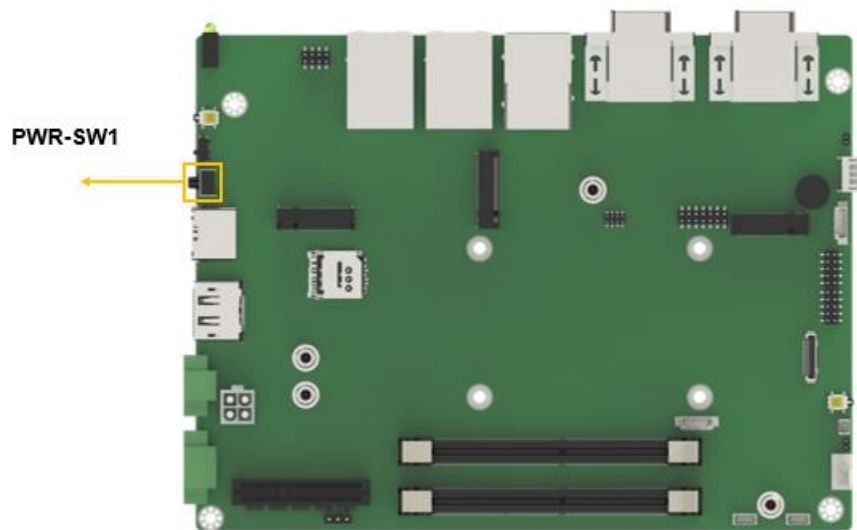

Figure 4-23: Power Switch Location
- CN Location:** See **Figure 4-23**